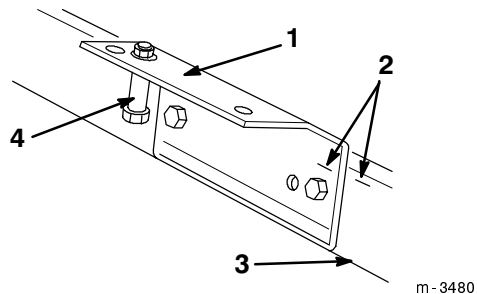

Figure 5
1. Position the hitch bracket on the mounting frame of the grass catcher, aligning the marks on the bracket with those on the mounting frame (Fig. 5).
2. Secure the hitch bracket to the mounting frame with two 5/16" x 1" bolts and 5/16" locknuts (Fig. 5).
3. Mount the spacer to the hitch bracket with a 1/4" x 1-3/4" bolt and 1/4" locknut (Fig. 5).